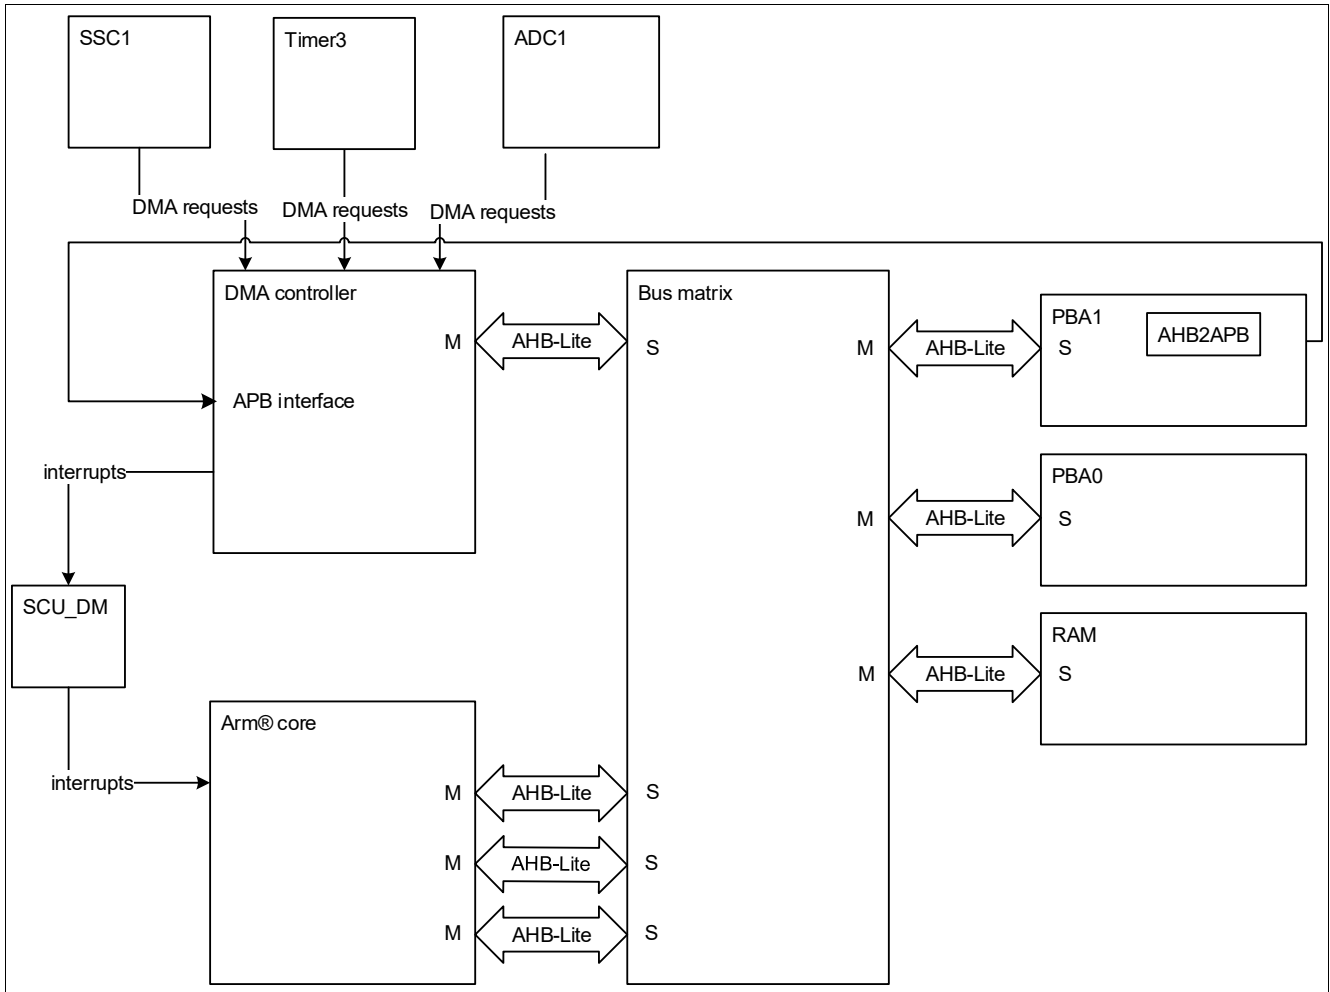

Figure 12 DMA controller top level block diagram
**Figure 12** shows the top level block diagram of the TLE9872QTW40.